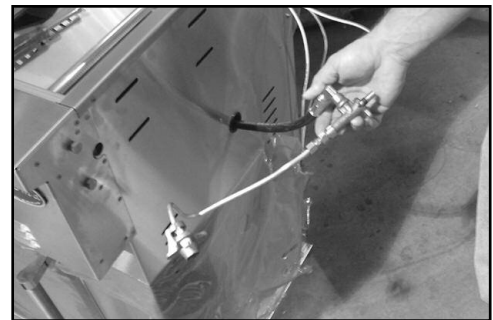

Fig. 3
1. Remove side burner assembly from packaging. (See Fig. 3)